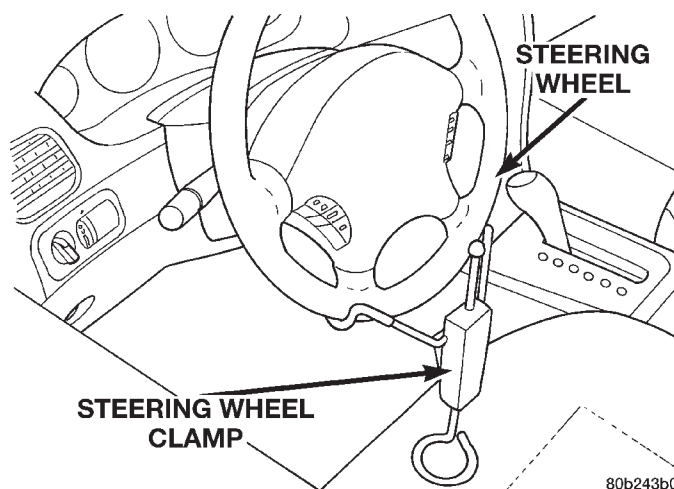

Fig. 7 Steering Wheel Holding Clamp Installed (Typical)
(9) Using a steering wheel holding clamp, (Fig. 7) lock the steering wheel from rotating.
CAUTION: Before removing the steering column coupler from the intermediated steering shaft be sure the steering wheel is locked from rotating (Fig. 7). If the steering wheel is allowed to rotate freely after it is disconnected from the intermediated shaft, the clockspring will be damaged and will need to be replaced.